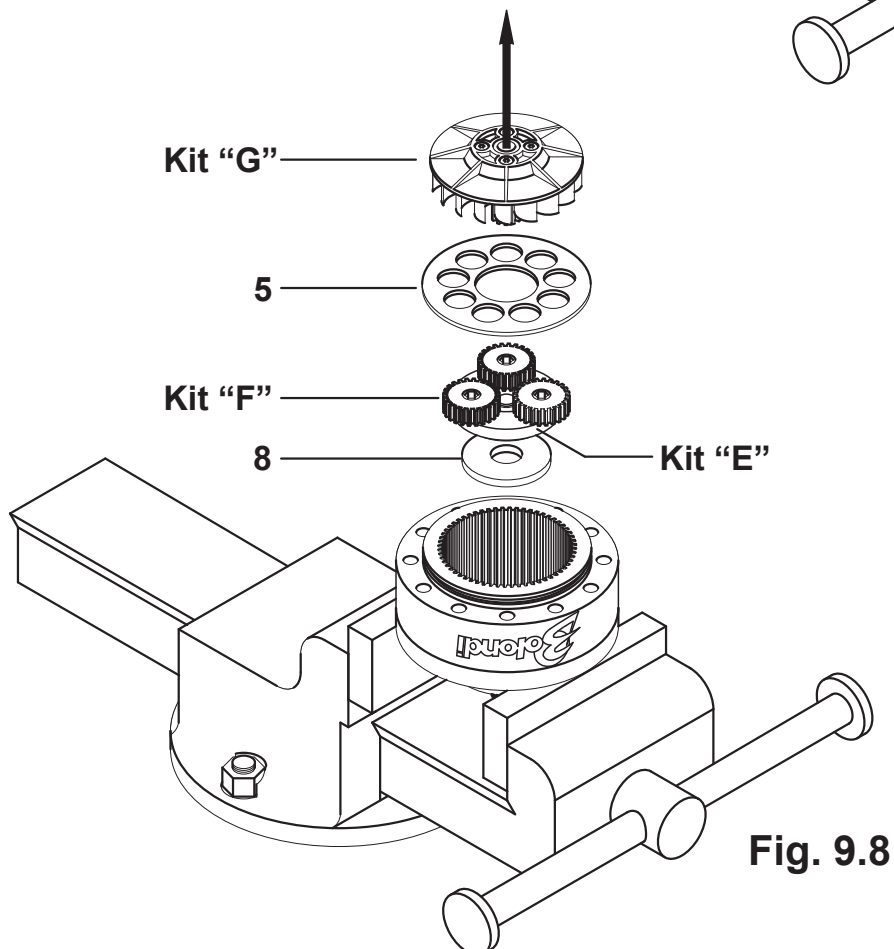

Fig. 9.8
9.3.6) Dismantle the impeller unit (kit "G"), the flange pos.5, the planetary gears pos.29 (kit "F") and the gear (kit "E") with relative washer pos.8 (Fig.9.8).